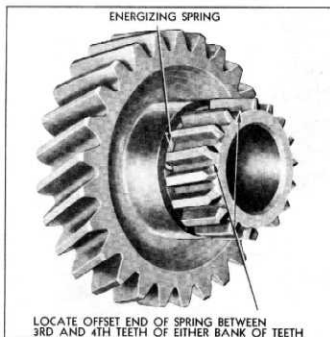

Fig. 14—Correct Position of Energizing Spring
1. It will be noticed upon examining these springs that one of the ends is slightly offset. Each spring must be assembled in its groove in the clutch gear and the second speed gear with the offset or locking end between the third and fourth teeth of either of the two banks of teeth on these gears, thus keeping the spring from turning in its groove (fig. 14).